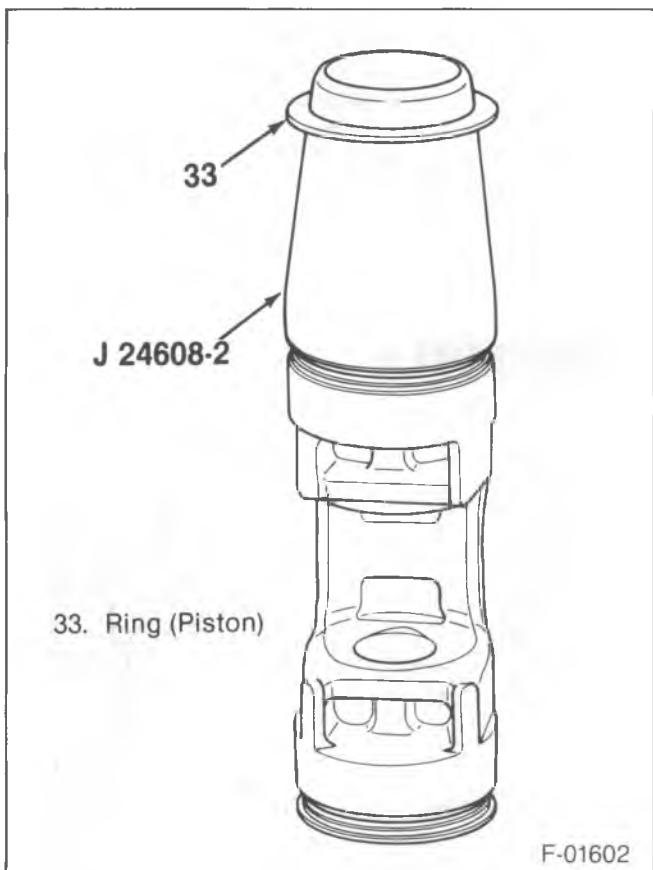
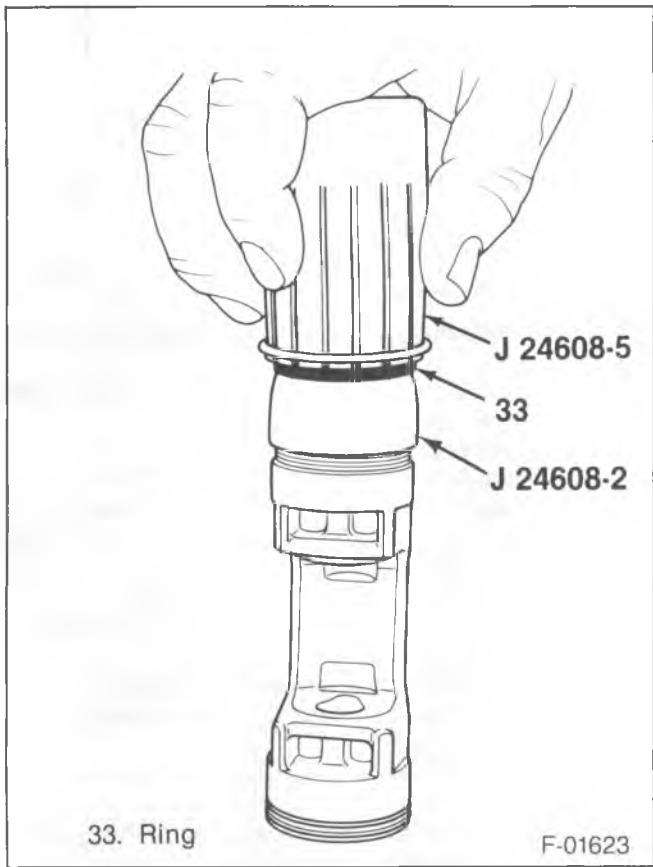

Figure 36—Piston Ring Position and Installer Guide
Figure 37—Installing the Piston Ring
1. Piston (32) to J 24608-2 (figure 36).
2. Piston ring (33) to J 24608-2.
3. Piston ring (33) to piston (32) (figure 37).